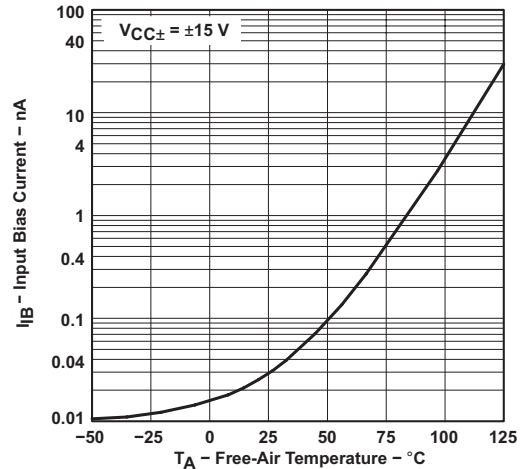

Figure 12. Input Bias Current vs Free-Air Temperature
- (1) All characteristics are measured under open-loop conditions with zero common-mode input voltage, unless otherwise specified. Full range for  $T_A$  is  $0^\circ\text{C}$  to  $70^\circ\text{C}$  for TL06xC, TL06xAC, and TL06xBC and  $-40^\circ\text{C}$  to  $85^\circ\text{C}$  for TL06xl.
- (2) Input bias currents of an FET-input operational amplifier are normal junction reverse currents, which are temperature sensitive, as shown in Figure 12. Pulse techniques are used to maintain the junction temperature as close to the ambient temperature as possible.
- (1) All characteristics are measured under open-loop conditions, with zero common-mode voltage, unless otherwise specified.
- (2) This parameter is not production tested.
- (3) Input bias currents of an FET-input operational amplifier are normal junction reverse currents, which are temperature sensitive, as shown in Figure 12. Pulse techniques are used to maintain the junction temperature as close to the ambient temperature as possible.
| Input bias current versus Free-air temperature                   | <a href="#">Figure 12</a> |